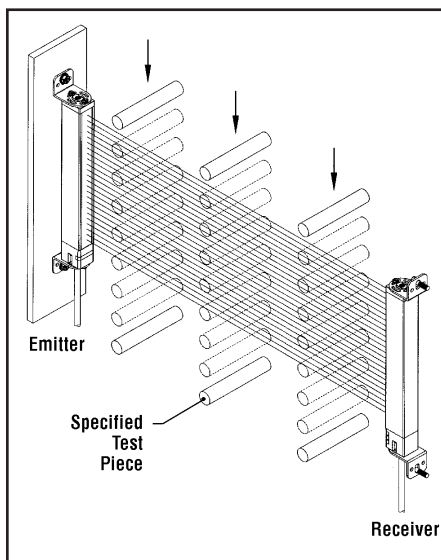

Figure 30. Use of Test Piece
- b) With the guarded machine at rest, slowly pass the appropriate specified test piece downward through the defined area at three points, taking care to hold the test piece perpendicular to the defined area: close to the receiver column, close to the emitter column, and midway between the emitter and receiver columns (Figure 30). In each case, the red status indicator should come ON and remain ON for as long as the test piece is within the defined area. When the test piece is withdrawn from the defined area, the green status indicator should come ON. If the green indicator comes ON at any time when the test piece is within the defined area, check for reflective surfaces, or unguarded areas created by use of fixed blanking (see Warnings, page 49). **Do not continue until the situation is corrected.** (See section 3.2.2 and 3.2.4.)
- b) With the guarded machine at rest, pass the *appropriate specified test piece* downward through the defined area at three points, perpendicular to the defined area: close to the receiver column, close to the emitter column, and midway between the emitter and receiver columns (see Figure 30). In each case, the red indicator must come ON and remain ON for as long as the test piece is within the defined area. When the test piece is removed from the defined area, the green status indicator should come ON (if blanking is ON, the green status indicator will be flashing). If the green status indicator comes ON at any time when the test piece is within the defined area, check for reflective surfaces, or unguarded areas created by the use of fixed blanking (see Warnings, page 49). **Do not continue until the situation is corrected.** (See Section 3.2.2 and 3.2.4).